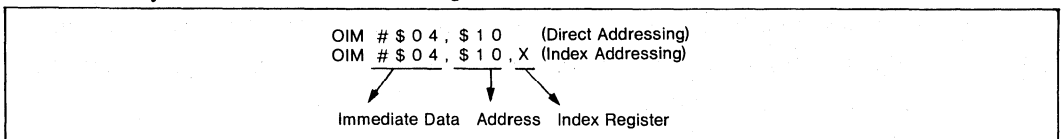

Figure III-23 OIM Example
**Answer:** They are written as shown in figure III-23.